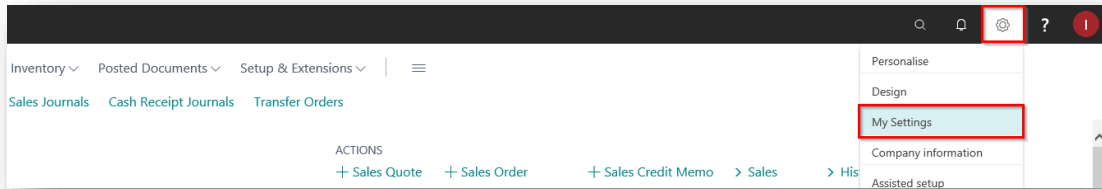

Figure 3-4
1. From your Dynamics 365 Business Central environment, in the app bar, select the **Settings** icon and then select **My Settings** (Figure 3-4).